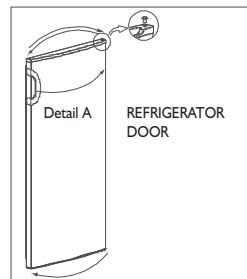

Fig. 7
7. Replace the top bushing and its bushing-cover. (Fig. 7) (use the bushing-cover contained in the user manual bag). Remove the bottom stop and bushing and fit them on the left side. (Fig. 7)
- 7.1 Remove the covers of the door handle. Unscrew the screws fastening the door handle. Fit the handle on the right side by performing the sequence described above in reverse order. (Fig. 7/ Detail A) (for the “New Emotion” design only)